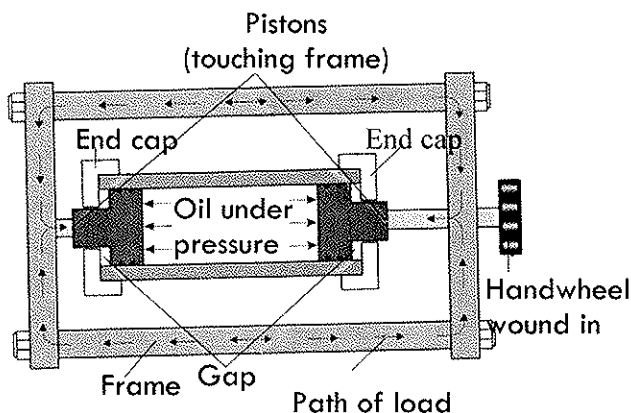

Figure 4 Open Ends Condition
- In the "open" ends condition the hand wheel is screwed fully in. This pushes the two pistons away from the cylinder end caps so that there is no contact between them. Therefore, the axial force is transmitted from the pressurized oil into the frame rather than the cylinder. See Figure 4.